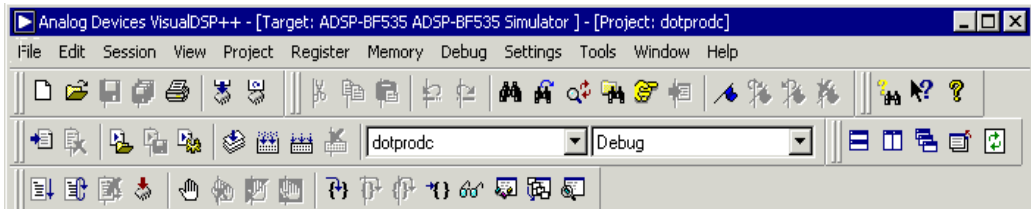

Figure 2-1. VisualDSP++ Toolbar Buttons
**Tip:** Become familiar with the VisualDSP++ toolbar buttons, shown in Figure 2-1 on page 2-3. They are shortcuts for menu commands such as **Open** a file and **Run** a program. Toolbar buttons and menu commands that are not available for tasks that you want to perform are disabled and displayed in gray.